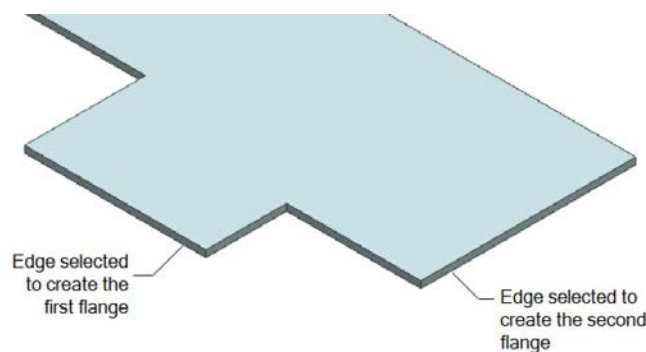
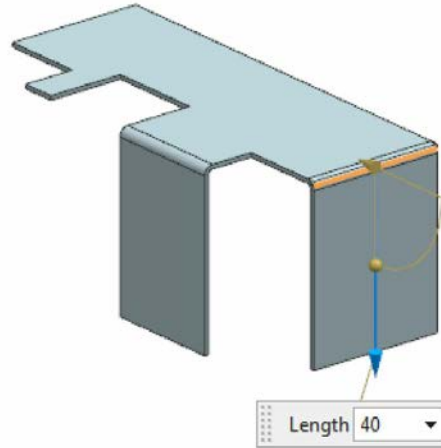

Figure 14-105 Edges to be selected to create flanges
Figure 14-107 Preview of the second flange
- Create the flanges, refer to Figures 14-105 through 14-114.
2. Select the edge on tab to create the first flange, refer to Figure 14-105; the preview of the full-width flange along with an edit box is displayed.
4. Similarly, create the second flange of 40 mm length by selecting the edge, refer to Figure 14-105. Figure 14-107 shows the preview of the flange created on the second edge selected. Next, choose the **Apply** button to create the flange.